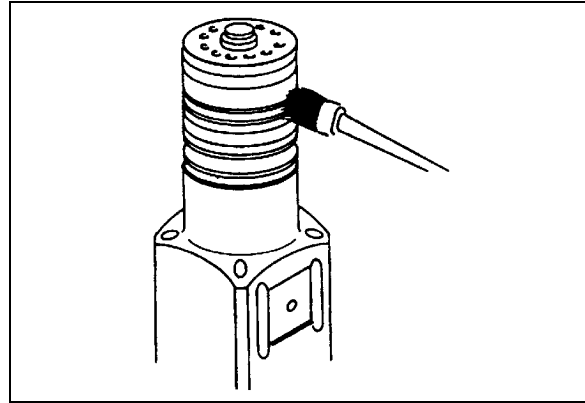

Figure 08-42: Lubricate Sliding Areas
2. Lubricate all sliding areas between the Box Body Cover and the Head. (Figure 08-42)